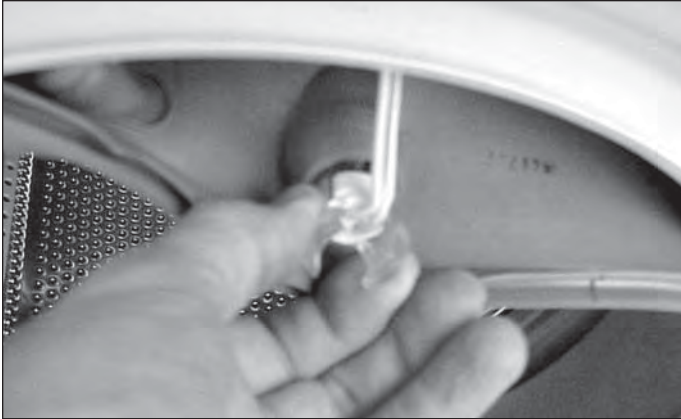

Figure 4-28.
2. Disconnect the (2) wires from output side of the transformer.
4. Push the light socket holder out of the rear of the bellows. (See Figure 4-28)